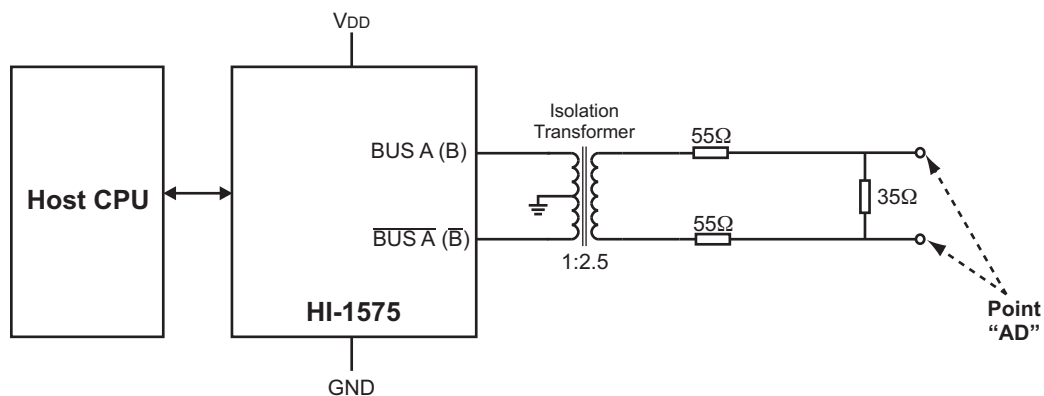

FIGURE 12. DIRECT COUPLED TEST CIRCUIT
**RECEIVER (Measured at Point "Ad" in Figure 12 unless otherwise specified)**
**TRANSMITTER (Measured at Point "Ad" in Figure 12 unless otherwise specified)**
TRANSMITTER (Measured at Point "Ad" in Figure 12)